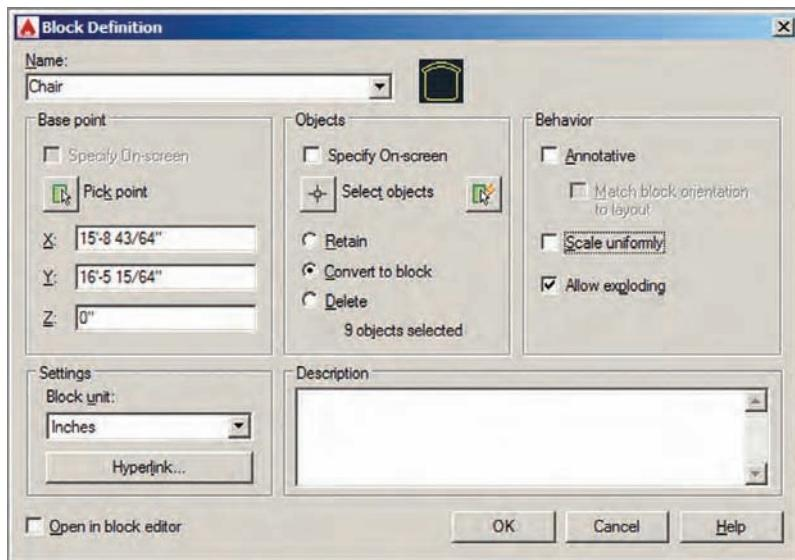

FIGURE 7.5 Defining a chair block
- 16.** Every block has a *base point*, which should be related to its geometry. Click the Pick Point button in the Base Point section; the Block Definition dialog box disappears. Hold Shift, and right-click to open the context menu; select Midpoint. Click the midpoint of the chair's front edge. The Block Definition dialog box reappears, showing the coordinates of the point to which you snapped (see Figure 7.5).